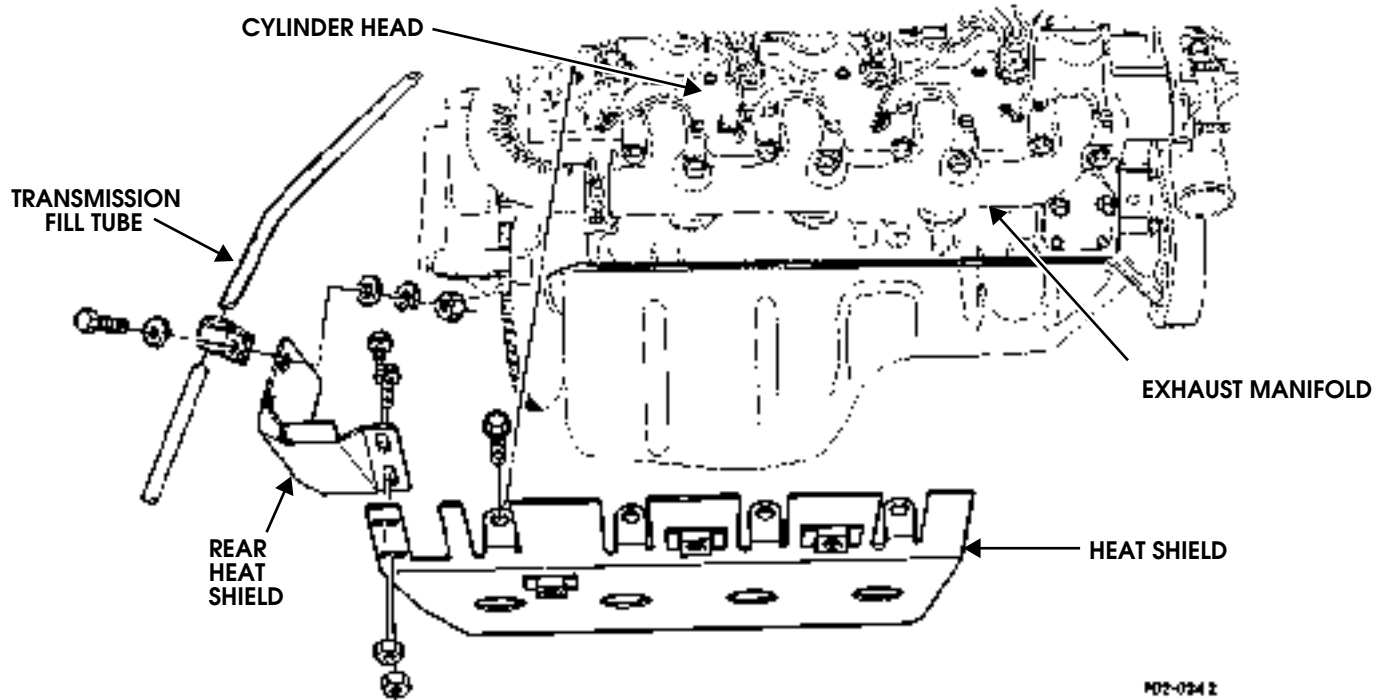

Figure 2-39: Right Rear Heat Shield
2. Detach rear heat shield from transmission fill tube clamp (Figure 2-39).